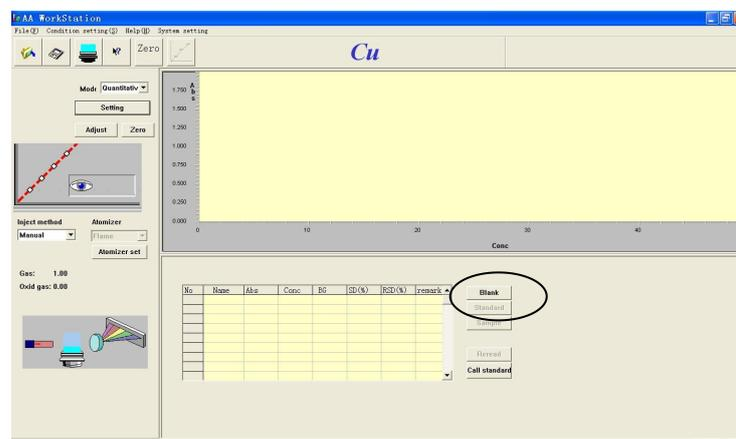

Figure 5-23
7. Press "OK" to close the dialog. Now, the "Standard blank" button should be enabled. See Figure 5-23.